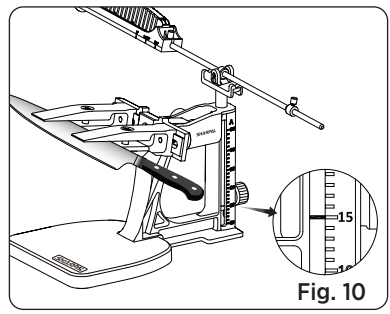

Fig. 10
4. Turn the angle lock knob to move the support bar up or down until the red line aligns with the desired angle on the scale (See Fig. 10). Then tighten the angle lock knob firmly.